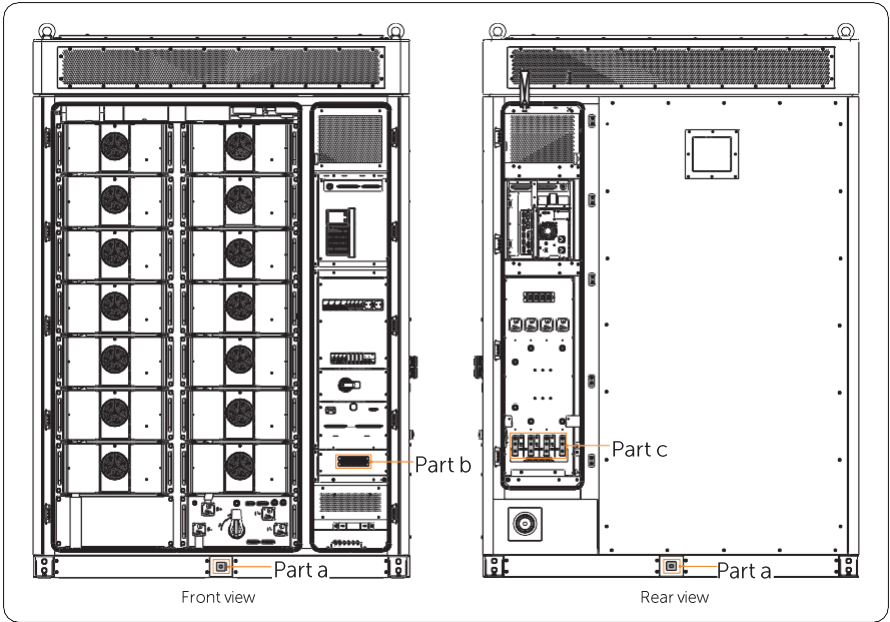

Figure 7-1 Part that needs wiring
- Before wiring, operators are required to learn which parts need to be conducted wiring. For details, please refer to Figure 7-1.
The device supports grounding plate connection and PE connection. Regarding the wiring area, see **Part a** in “Figure 7-1 Part that needs wiring”, please strictly follow the steps below.